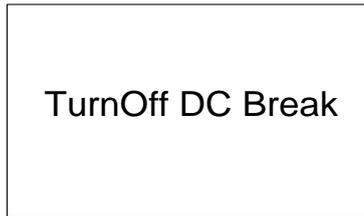

Figure 5-5 Turnoff DC circuit breaker
(5) If the DC circuit breaker is not turned off, LCD will remind the user to “TurnOff DC Break”, as shown in Figure 5-5. Please turn off the DC circuit breaker and press “ENT” to continue discharging.